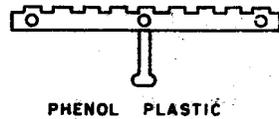

Fig. 14—318A Plug
2.13 **318A:** The 318A (Fig. 14) is a dummy plug consisting of two strips of insulating material with a handle. The 318A plug is used in opening ten lines. The plug is used with the 444-type jacks.